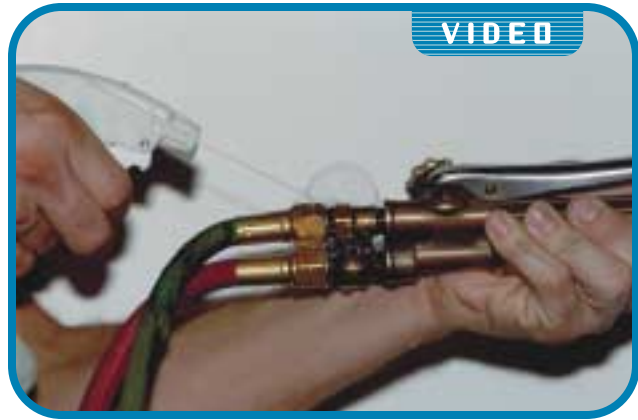

FIGURE 7-17 Leak-check all gas fittings. Courtesy of Larry Jeffus. See **DFW video series**.
15. With both torch valves closed, spray a leak-detecting solution on all connections, including the cylinder valves. Tighten any connection that shows bubbles, **Figure 7-17**.